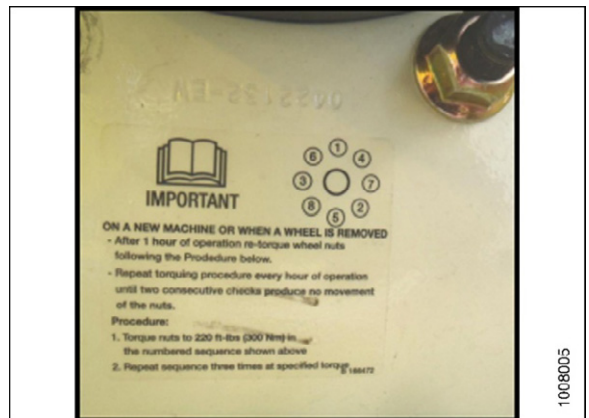

Figure 5 – Old Drive Wheel Decal
4. Remove current decal (see Figure 5) and apply new decal in its place.